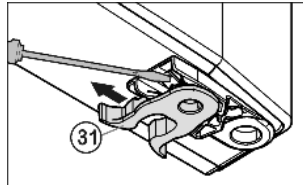

Fig. 8
- ▶ Transfer the spring clamp *Fig. 8 (31)*: Depress the latch nose and pull the spring clamp off over it.